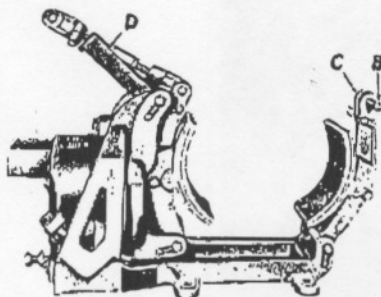

Fig. 2—Tie Bar Assembly swung back to permit installation of brake from side of shaft
- a. Remove Outer Arm Bearing Pin (B in Fig. 2), being careful to hold in Outer Shoe Arm (C) firmly to prevent springing out too quickly.
- b. Swing top Tie Bar Assembly (D) back over magnet as shown.